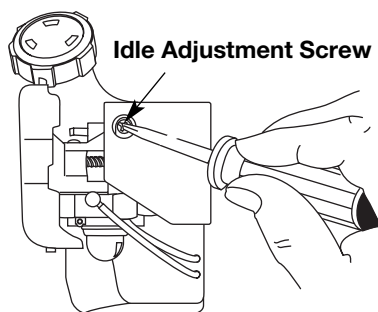

Fig. 32
The idle speed of the engine is adjustable. An idle adjustment screw is reached through a hole in the top of the engine cover (Fig. 32).
2. Release the throttle trigger and let the engine idle. If the engine stops, insert a small phillips into the hole in the air filter/muffler cover (Fig. 32). Turn the idle speed screw in, **clockwise**, 1/8 of a turn at a time (as needed) until the engine idles smoothly.